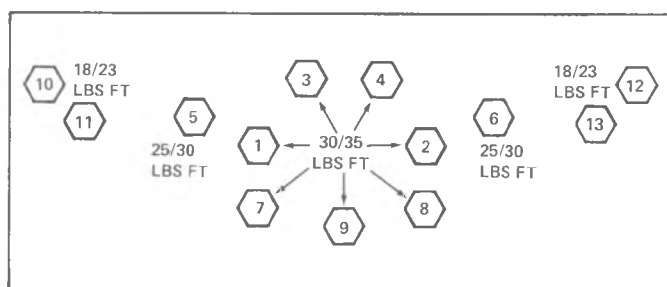

Fig. 6A-11-Cylinder Head To Exhaust Manifold Tightening Sequence
3. Torque all cylinder head to manifold bolts to specifications (Fig. 6A-11).